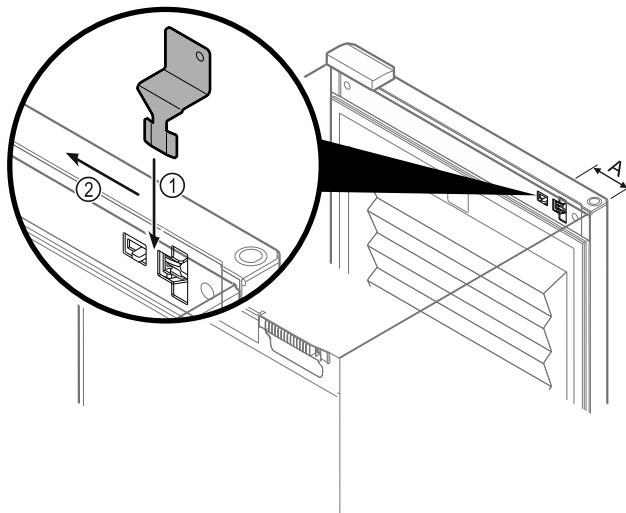

Fig. 190
- ▶ Insert the emergency release key in the specified position Fig. 190 (A) ≈ 100 mm (3 15/16 in).
- ▶ Insert the emergency release key Fig. 190 (1) from the top between the door and device body until it reaches the stop.
- ▶ Pull the emergency release key in the direction of the hinge. Fig. 190 (2)